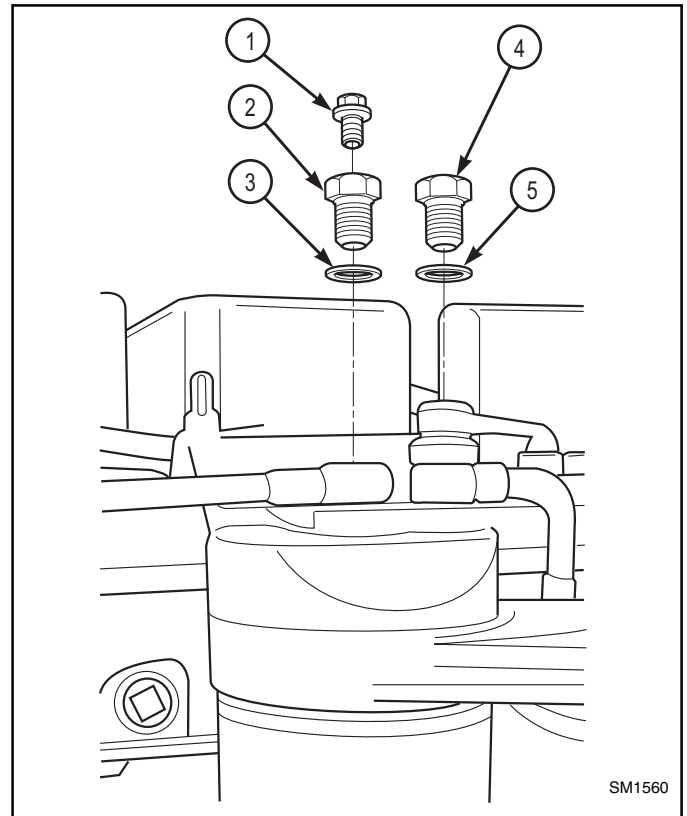
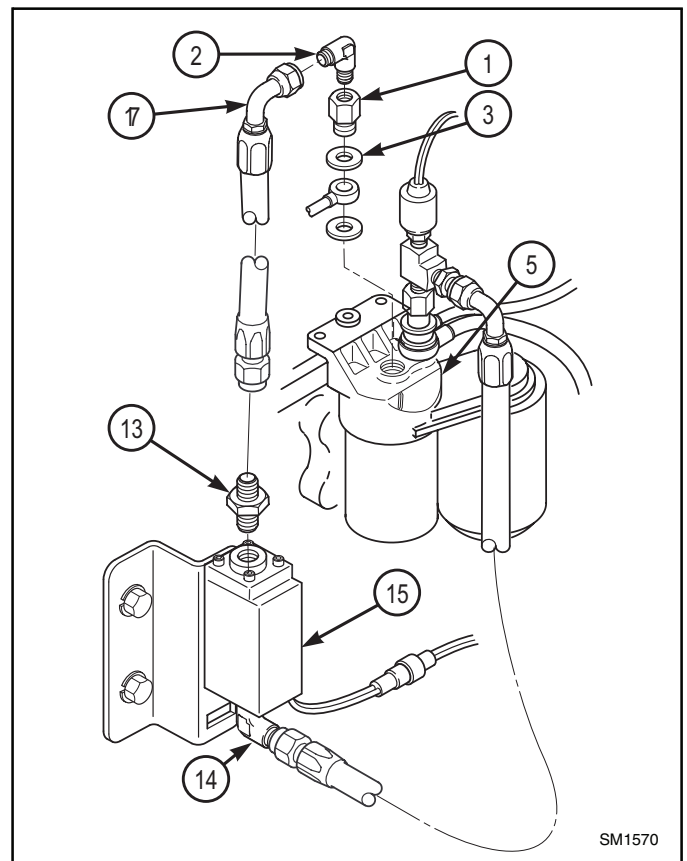

Figure 5
Figure 6
REMOVAL (Figure 5)
- a. Install washer (3) see removal (Figure 5) and (from the kit) the banjo inlet screw #6618322 (1) in the fuel filter system (5) of the new engine block. (Figure 6).
- b. (From the kit) apply sealing compound to threads on elbow #8760220 (2) and install on banjo inlet screw (1). (Figure 6).
- g. Apply sealing compound to threads of elbow (14) (Figure 6) and adapter (13). (Figure 6)
- h. Install elbow (14) and adapter (13) on fuel differential pressure switch (15). (Figure 6).
- j. Install (from the kit) hose #2714342 (17) on elbow (2) and adapter (13). (Figure 6).